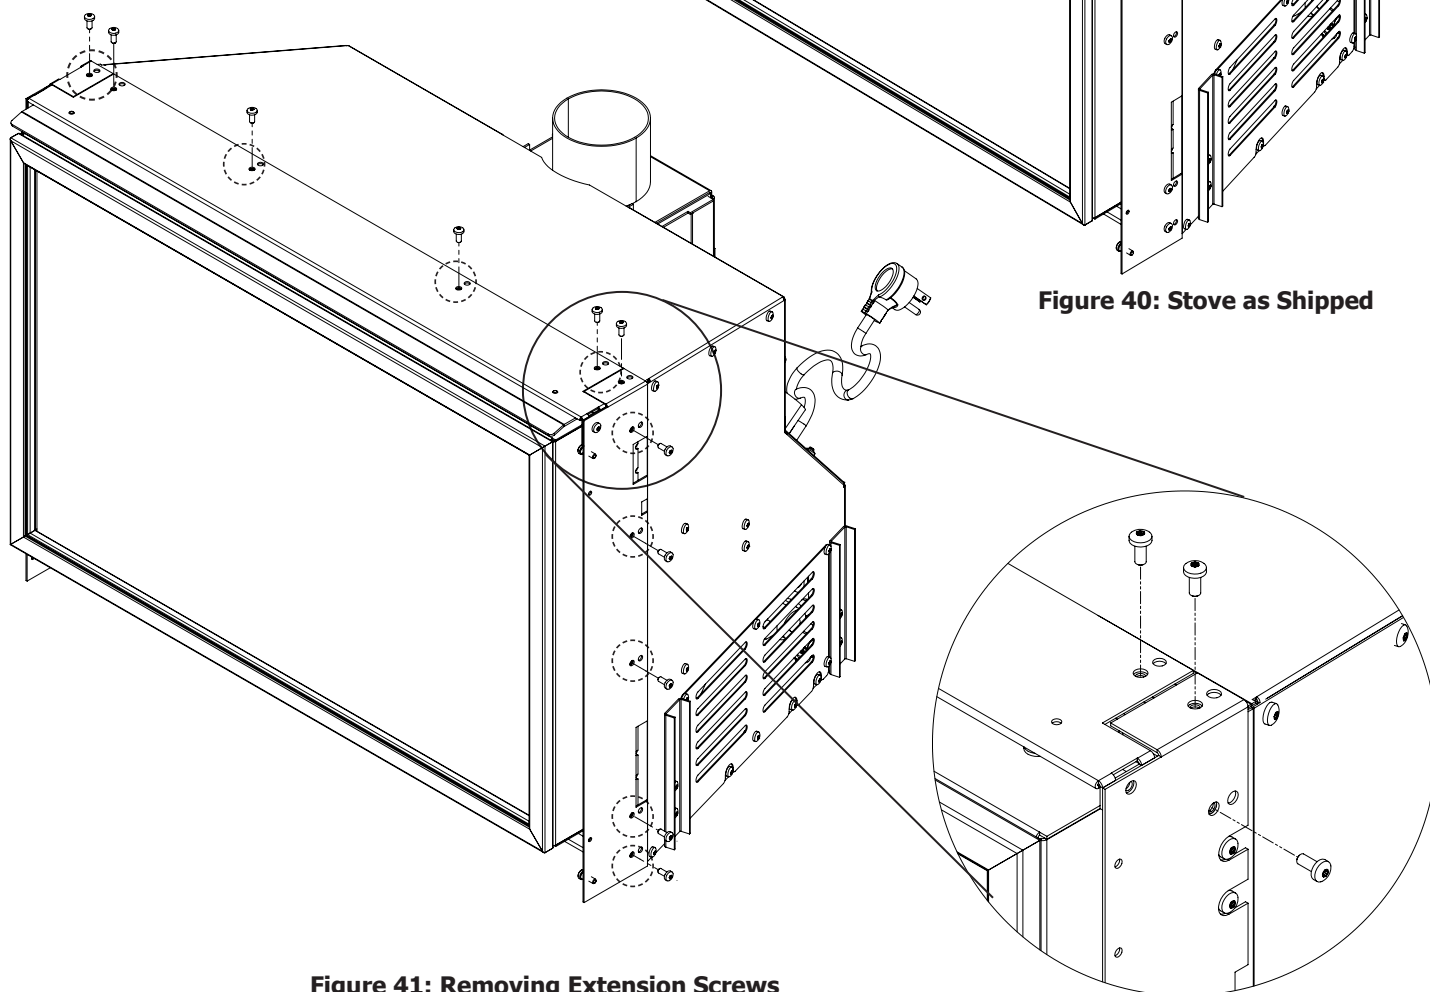

Figure 41: Removing Extension Screws
2. Remove the six (6) screws on each Side Extension (see Figure 41)